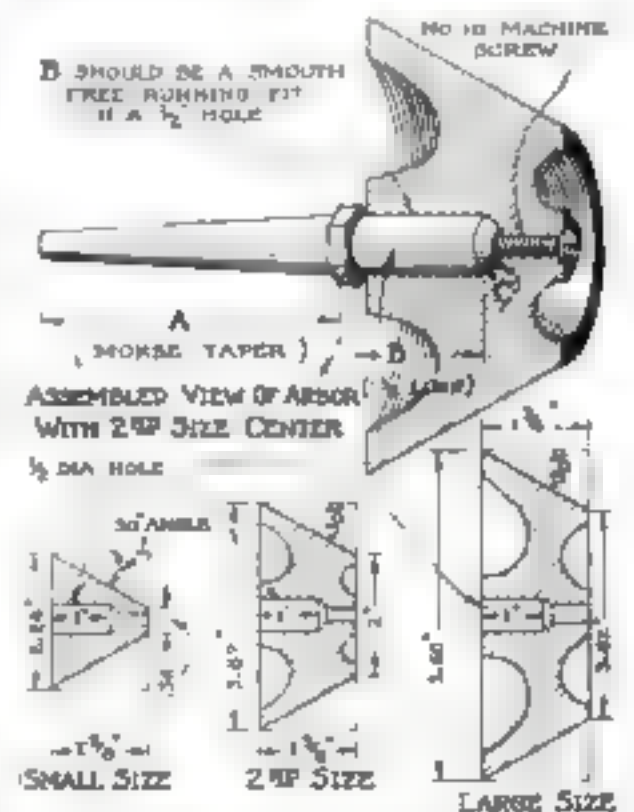

Fig. 4. How the arbor and the three interchangeable cone lathe centers are machined.
**M**ACHINISTS who are called upon from time to time to machine pipe tubing, or hollow cylinders in the lathe will find that a set of interchangeable cone centers such as shown in Fig. 4 forms a valuable addition to their tool crib.